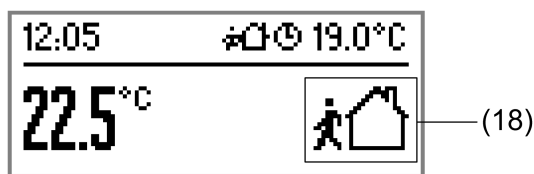
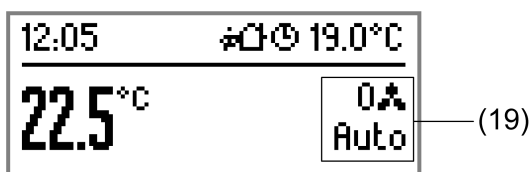

Figure 52: Example of a 2-area display with room temperature in the menu area and a large operating mode symbol
Figure 53: Example of a 2-area display with room temperature in the menu area and fan level display
In the normal case, right-justified will be indicated in the menu area of the controller operating mode in the form of a large symbol (18) (Figure 52), so long as the integrated controlled or the controller extension is activated. As an alternative to the operating mode symbol, it is possible here to display the fan level and the fan operating mode (19) of a fan coil (Figure 53). To do this, the manual fan control has to be enabled (see page 190-191).